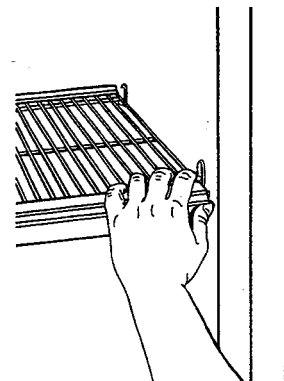

Figure 60
- Remove shelf by gently pulling on right side wall snap-lock tabs to release. Lift right side of shelf. See Figure 60.